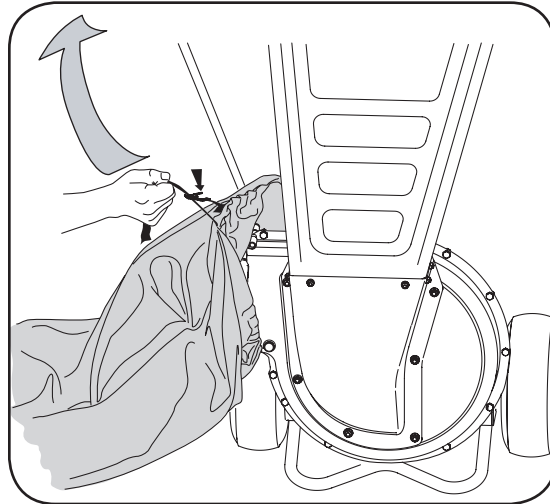

Figure 3-2
- c. Pull on the drawstrap until the bag is tight around chute deflector opening. See Figure 3-2.